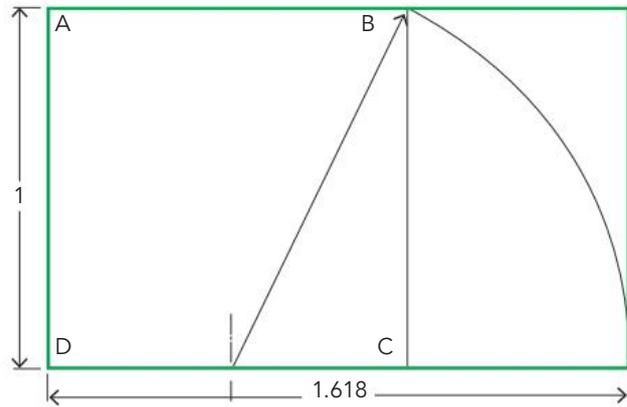

Figure 2.7 The Greek golden mean, or golden section, is based on a rectangle with ratio of width to length equal to 1:1.618 or approximately 5:8
- *Proportion.* The length:width:height ratio has to not only accommodate the contents of the piece (such as a Blu-ray player and stereo unit) but also should be visually appealing in terms of aesthetics. If possible, it should also match the style of existing furniture. The golden mean or golden section is a rectangular shape – with origins around 500 BCE (Pythagoras’ lifetime) – that is a design presence in nature’s shapes and was found to be a geometric ratio of 1:1.618 (see Figure 2.7). This ratio is still used today in many forms of architecture and art because of its excellent aesthetic qualities.